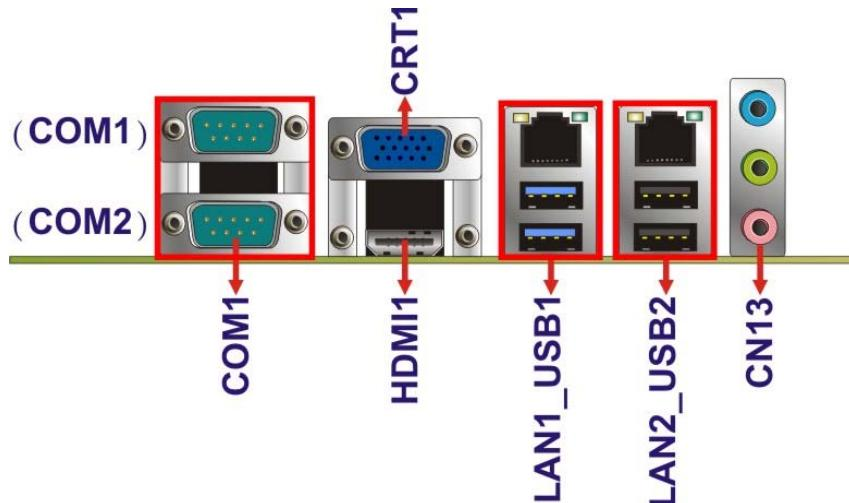

Figure 3-30: External Peripheral Interface Connector
**CN Location:** See Figure 3-30
**CN Location:** See **Figure 3-30**